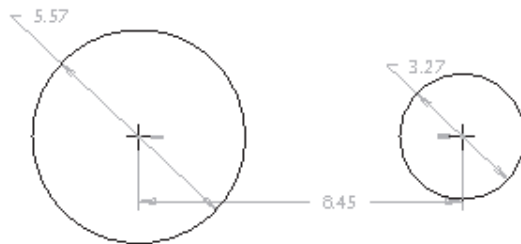

Figure 2-35 Two circles with weak dimensions and constraints
- Draw the sketch using the sketcher tools, refer to Figures 2-35 through 2-38.
Figure 2-35 shows the two collinear circles drawn using the **Center and Point** button from the **Sketcher Tools** toolbar.